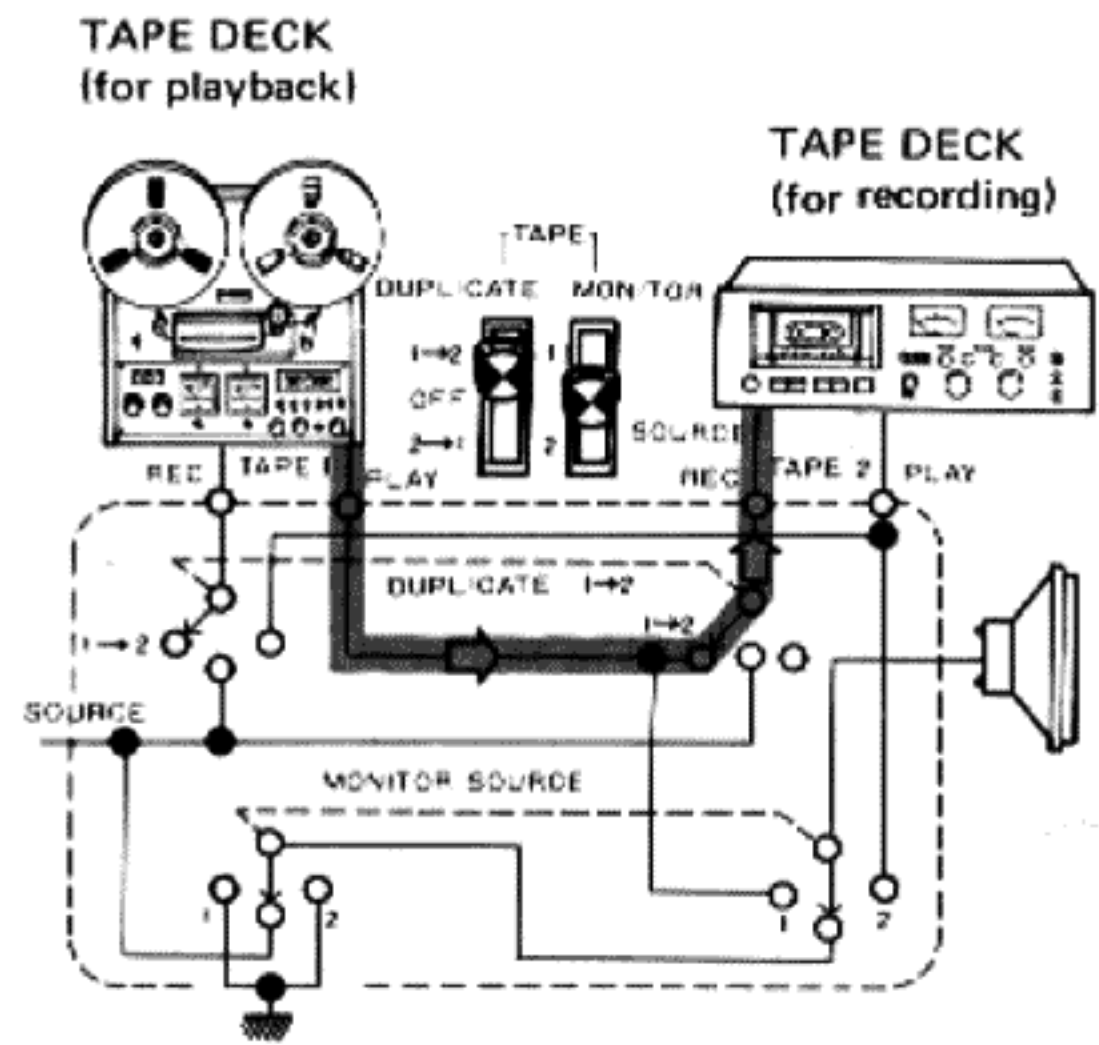

Fig. 18
1. Connect two tape decks as shown in Fig. 18.
As shown in Fig. 18, set TAPE MONITOR switch to position of tape deck (2 or 1) in recording mode.